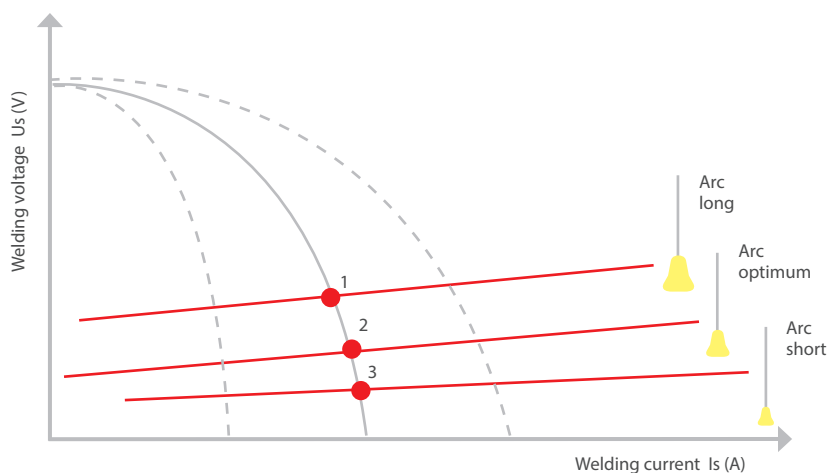

Fig. 23: Power source characteristic – arc characteristic – operating point
If the power source characteristic and the arc characteristic are presented together in a diagram (Figure 23), the static operating point can be read at their point of intersection. This indicates the arc's effective welding current  $I_s$  (A) and the welding voltage  $U_s$  (V).